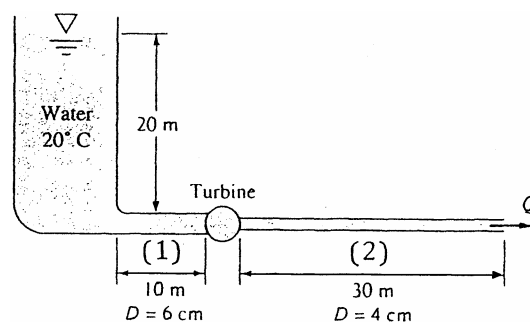

Fig. P6.76
6.76 The small turbine in Fig. P6.76 extracts 400 W of power from the water flow. Both pipes are wrought iron. Compute the flow rate $Q \text{ m}^3/\text{h}$. Sketch the EGL and HGL accurately.